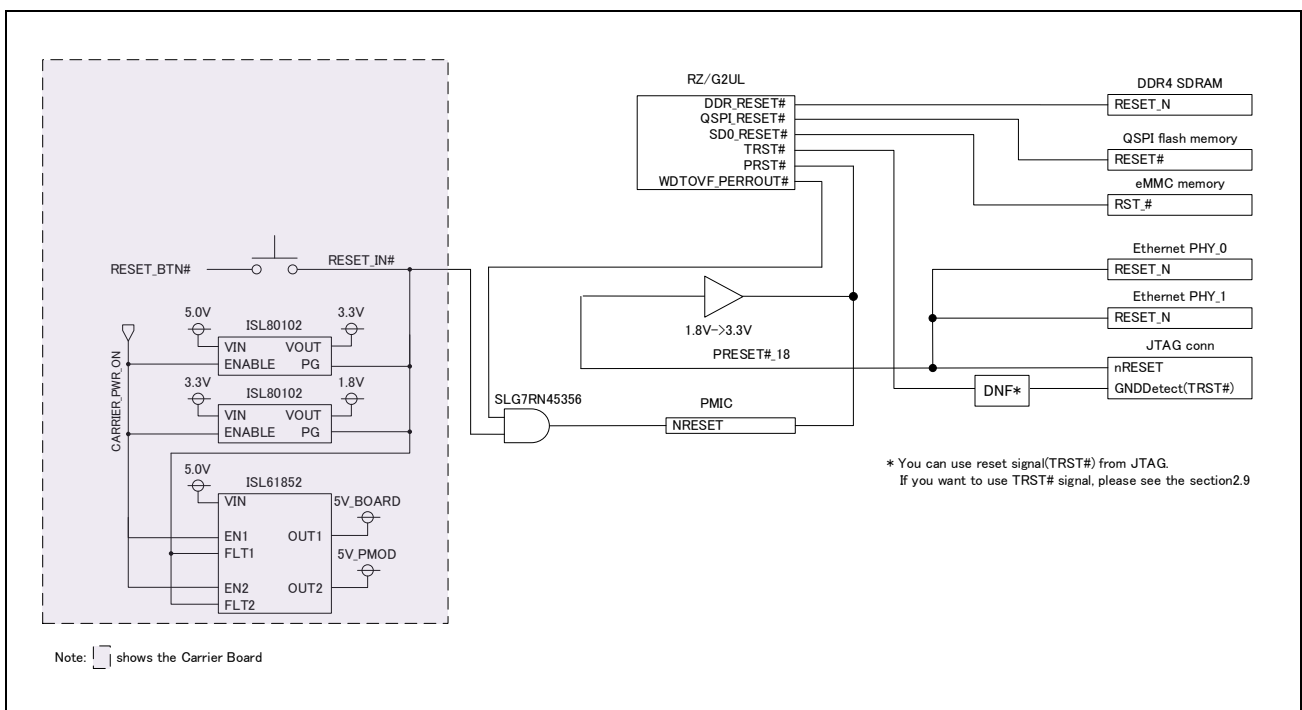

Figure 2.8 Block Diagram of Reset Control
**Figure 2.8** shows block diagrams of a reset control for the RTK9743U11S01000BE (Evaluation board Kit for RZ/G2UL MPU).